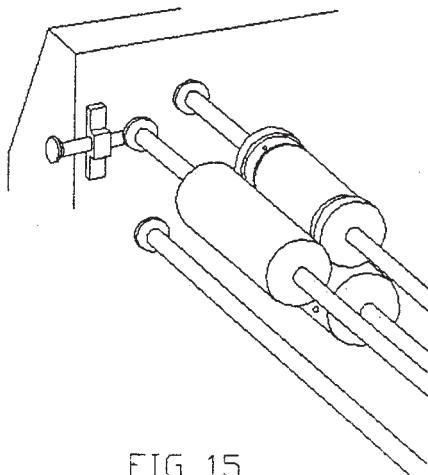

FIG 15
6. Loosen Setscrews on Platen Cylinder (if the Setscrews are not in plain view, use the Handwheel to bring them into plain view). Horizontally align the Platen Cylinder with the Signature area on the Check. Tighten Set Screws. (Fig. 15)